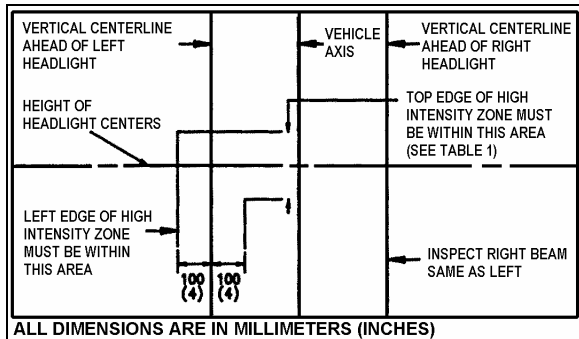

FIGURE 61: AIM INSPECTION LIMITS FOR LOWER-BEAM HEADLIGHTS 06506
8. The inspection limits in the vertical direction for low-beam headlights or the low beam of a dual-beam headlight, shall be as described in Table 1. In the horizontal direction, the left edge of the high-intensity zone shall be located from 10 cm (4 in) left to 10 cm (4 in) right of the vertical centerline of the beam. The viewing screen shall be located 7.6 m (25 ft) in front of the vehicle (Fig. 61).